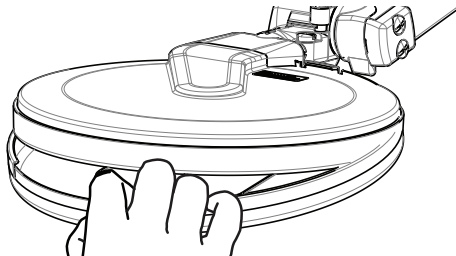

Figure 26: Replacing the Skid Plate
- f. The Skid Plate is designed to protect the coil and may require replacement after long periods of use. There is no requirement to remove the Skid Plate to clean the inside during routine maintenance. To replace the Skid Plate, remove the original using fingers to lever it from the coil, then push the replacement Skid Plate onto the coil (see Figure 26).